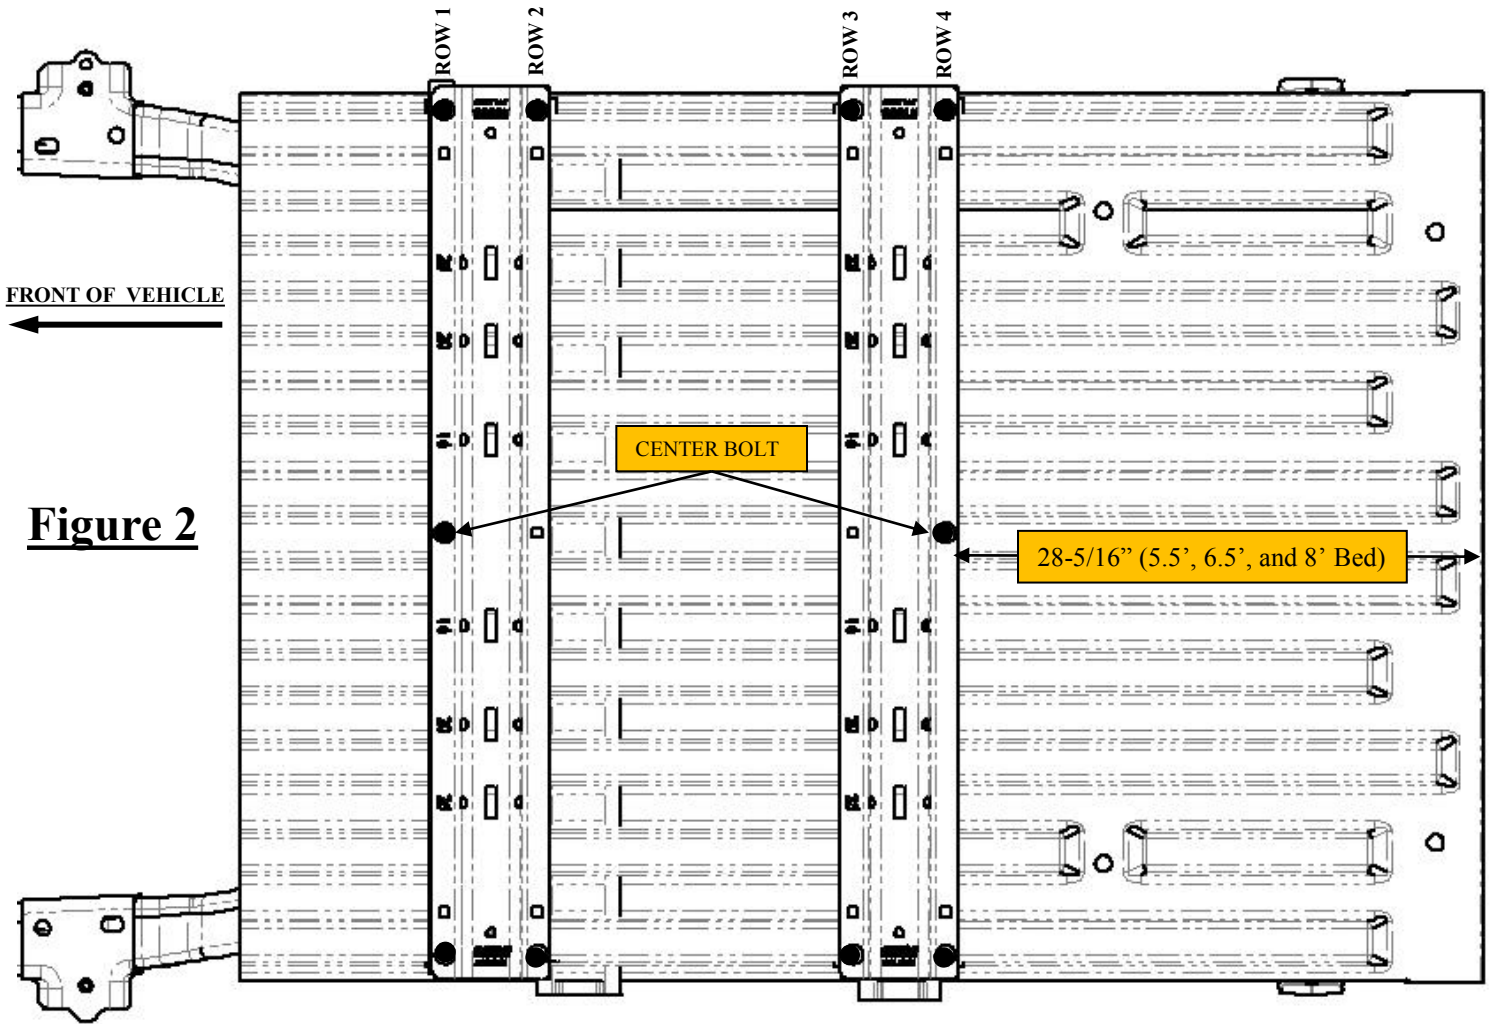

Figure 2
3. Place the rear mounting rail in the box of the truck, using your tape measure, center the rail between the weld seams on the length of the truck box floor and the proper distance from the rear edge of the truck see Figure 2.